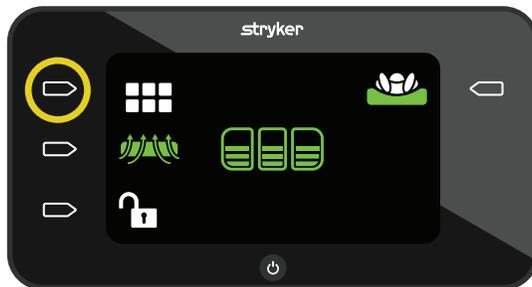

Figure 32 – Mode
1. On the home screen, press the **Action** button next to the **Mode** icon (Figure 32).